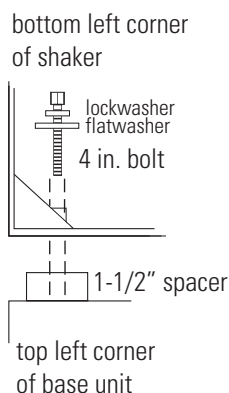

Figure 1-19. Shaker To Shaker
4. Carefully lift and position the top unit over the spacers on the bottom unit. Align the (4) connection point holes in the bottom of the top unit with the (4) spacers and threaded inserts. (Helpful hint: Use masking tape around outside edge of spacers to hold in place during installation. Remove tape after installation).
5. Assemble the lockwashers, then the flatwashers onto the 5/16-18 x 4" bolts. Then thread the bolts through the connection point and spacer, and into the unit below. Refer to Figures 1-19 & 1-20. Tighten bolts.